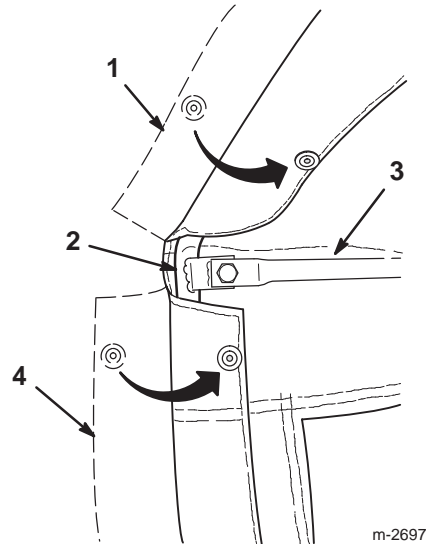

Figure 11
2. Slip the cover over the frame assembly and close the snaps to secure the cover around the top and rear frames (Fig. 11).